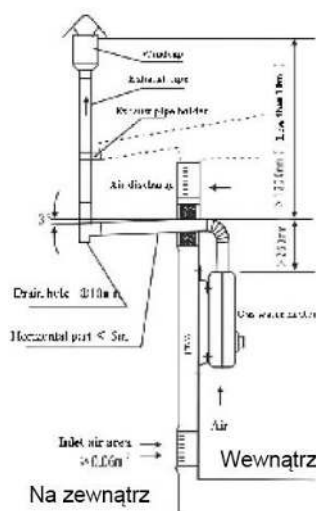

Fig10
2. The exhaust pipe should be resistant to high temperature (more than 200°C) and rust (Fig. 10).